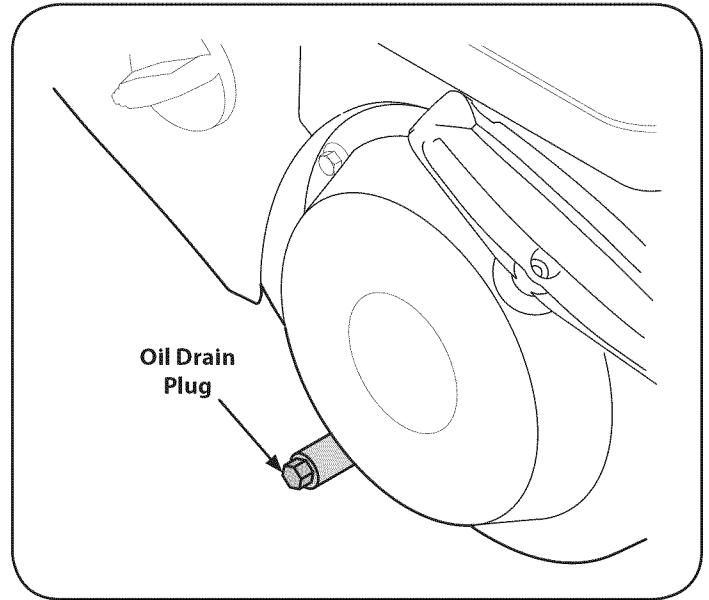

Figure 18
3. Remove oil drain plug. See Figure 18 on next page.